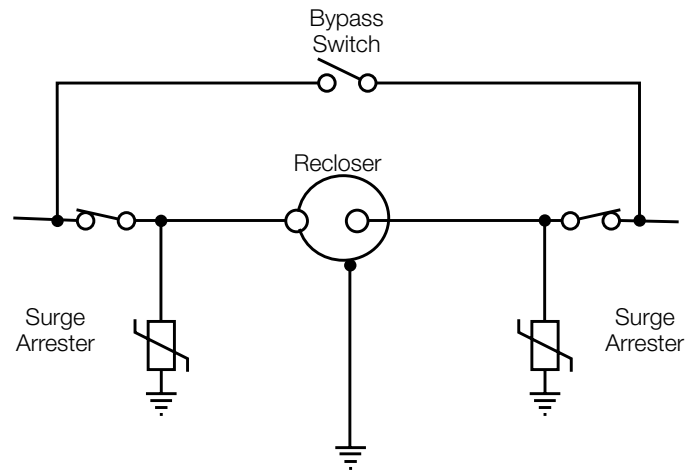

Figure 16.
7. Make the high-voltage line connections. See Figure 16.